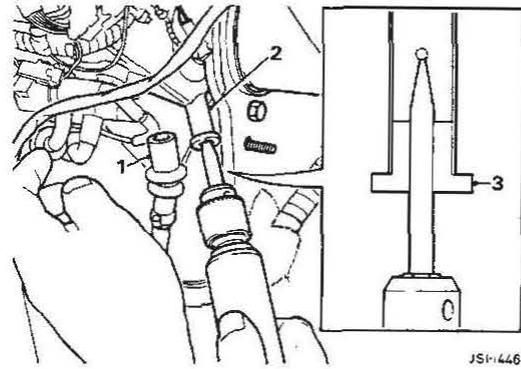

FIG. 2
9. Remove the drain tube assembly (1 Fig. 2) from the air con drain stub pipe (2 Fig. 2).
10. Fully seat the cutting tool guide to the air con stub pipe (3 Fig. 2).